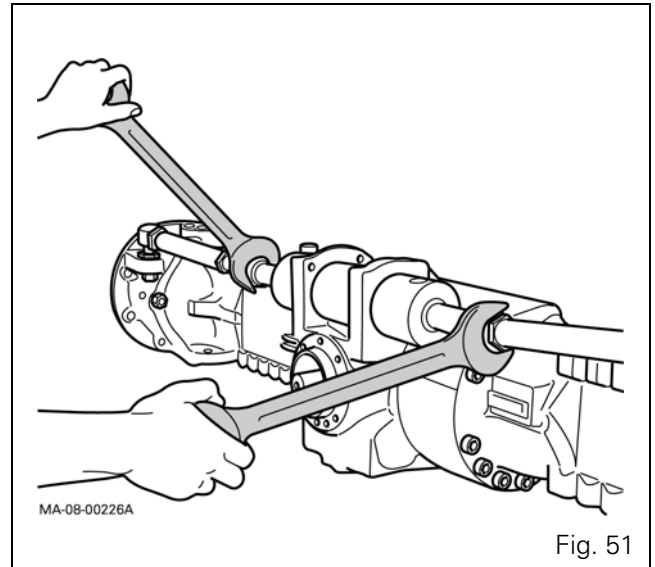

Fig. 51
44. If wheel alignment is not correct, adjust the selector rails by screwing or unscrewing equally both tie rods, using two wrenches until wheel alignment enters the required values (Fig. 51).